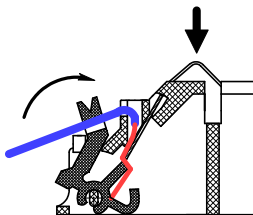

Figure 4
- insert the wire into the channel and fix it forcing the press-button up to the stop (see Figure 4);
- check the reliability of connection by pressing the contact bend, imitating the press with detector (see Figure 4) and lay it;
- bring the wire into the slot, located at press-button (Figure 4).